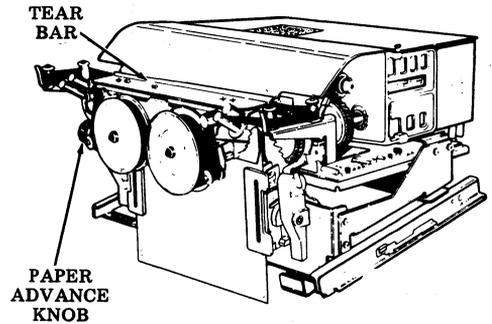

Fig. 64—Paper Positioning for First Printing Line (80-Column)
(c) On 80-column forms access printer, pull out paper advance knob (blue) and turn to position form for first line of printing as follows (Fig. 64):
- (1) Align the start of form (tear line perforation) directly behind the tear edge of the tear bar (Fig. 64).